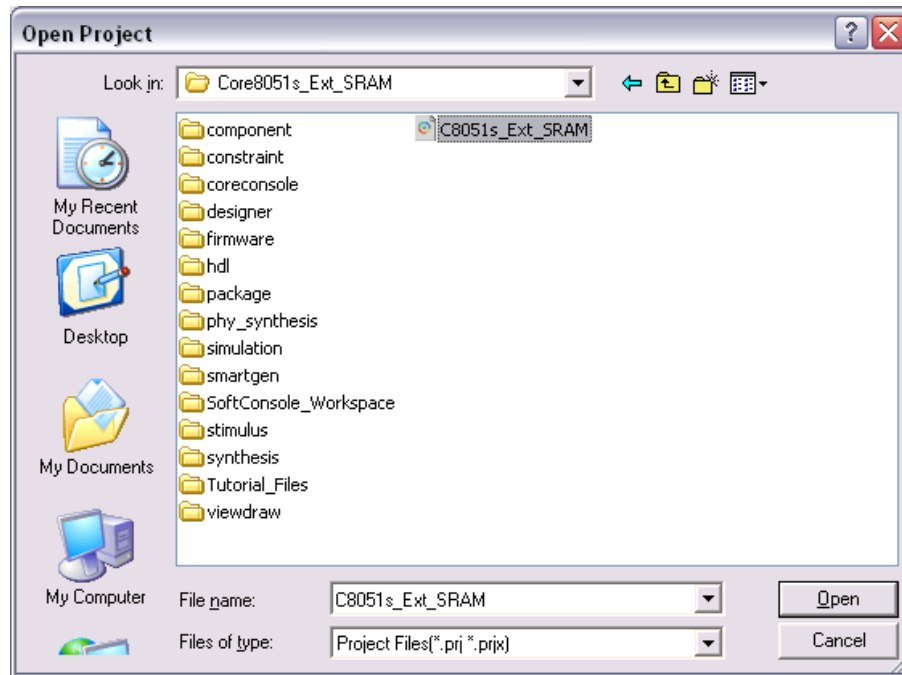

Figure 4 Selecting Project File
4. Select C8051s_EXT_SRAM, as shown in Figure 4.